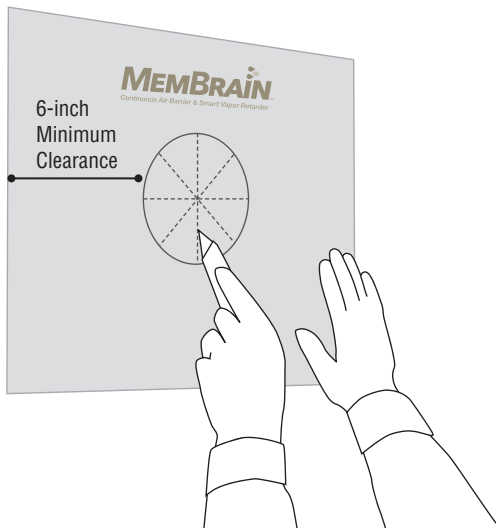

Figure 10: Patch preparation.
## Large Circular Penetrations – Figures 10 and 11
- Intersect the circle with four diameter lines. (See Figure 10.)